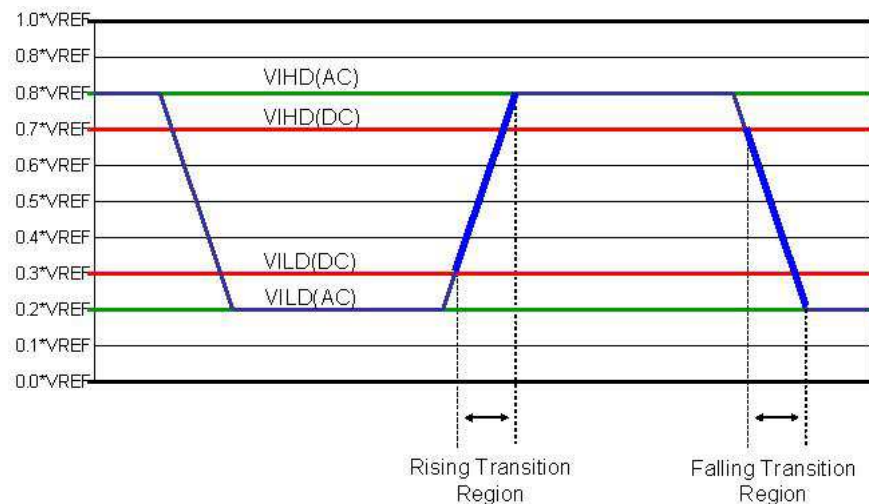

Figure 1. Low Speed (LS) I/O Input Thresholds
- (1) V_{ILD}(AC) minimum applies to undershoot.
- (2) V_{IHD}(AC) maximum applies to overshoot.
- (3) Signal group 1 output slew rate for rising edge is measured between V_{ILD}(DC) to V_{IHD}(AC).
- (4) Signal group 1 output slew rate for falling edge is measured between V_{IHD}(DC) to V_{ILD}(AC).
- (5) Signal group 1: See Figure 1.
- (6) Signal groups 2 and 3 output slew rate for rising edge is measured between V_{ILD}(AC) to V_{IHD}(AC).